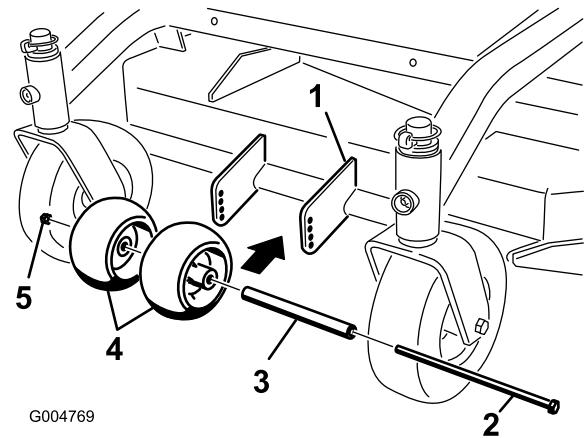

Figure 14
1. After adjusting height-of-cut, check the anti-scalp rollers so that there is a minimum of 3/8 inch (10 mm) clearance above the ground (Figure 14).
2. If adjustment is needed, remove the bolt, washers and nut (Figure 14).
3. Select a hole position so the anti-scalp rollers are a minimum of 3/8 inch (10 mm) off the ground (Figure 14).
4. Install the bolt and nut (Figure 14).